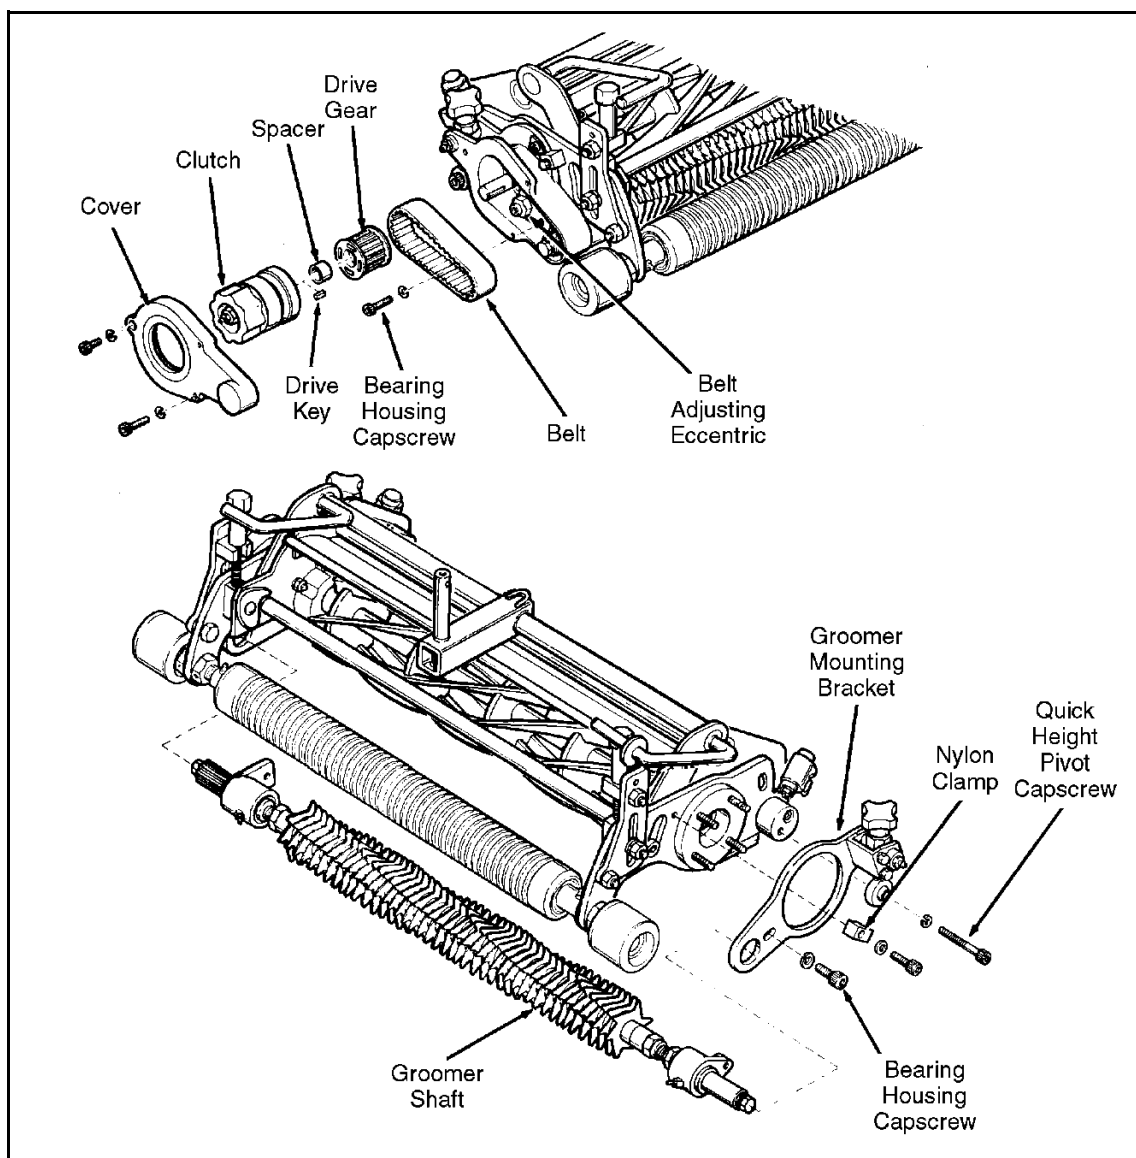

Figure 13C-4. Groomer Shaft Assembly
1. Remove the hardware as shown in Figure 13C-5 from ends of the groomer shaft.